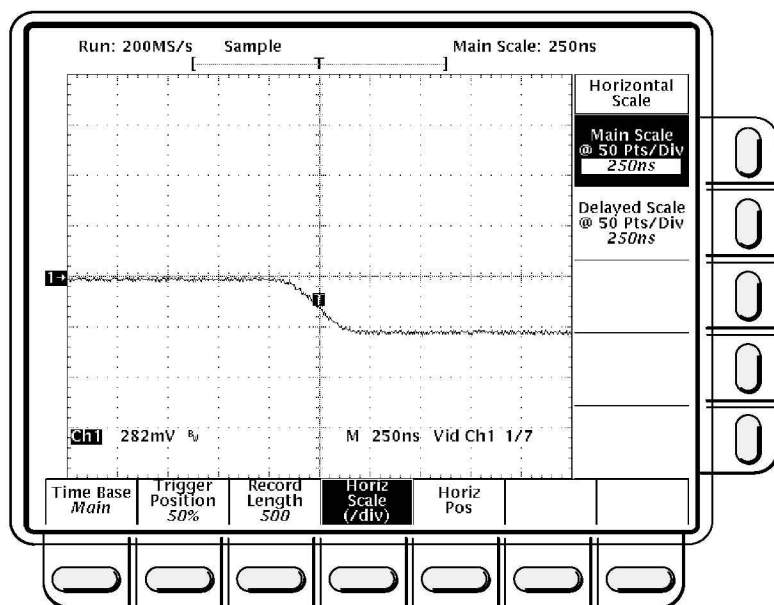

Figure 4-27: Jitter Test Displayed Waveform
b. CHECK that the oscilloscope lights up its front panel **TRIG'D** LED and it displays the waveform on screen (see Figure 4-27).